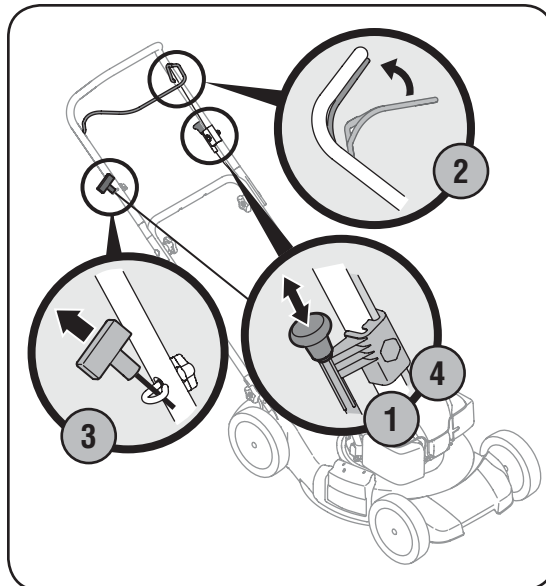

Figure 4-2 Models with manual choke only.
1. If equipped, pull out the choke knob located on the left side of the upper handle, Figure 4-2.
2. Standing behind the mower, squeeze and hold the blade control against upper handle, Figure 4-2.
4. As the engine warms, slowly push in the choke knob, if equipped. See Figure 4-2.